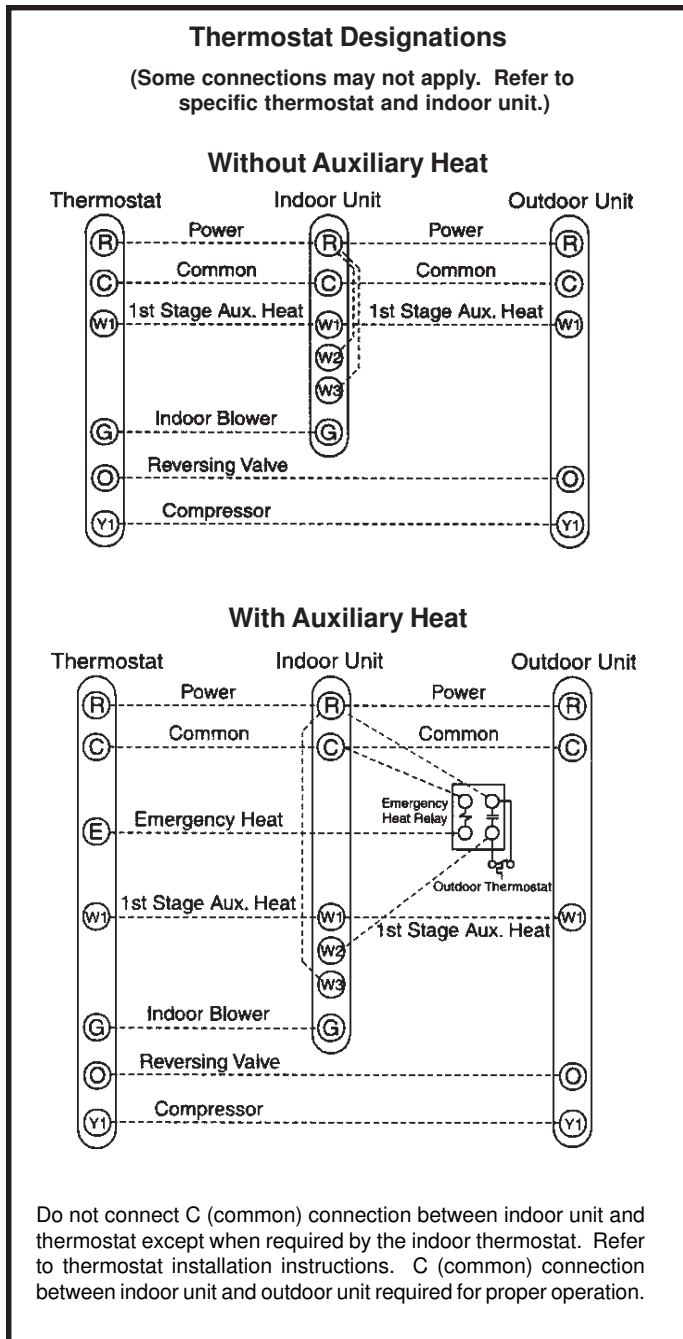

Figure 4
4. Install low voltage wiring from outdoor to indoor unit and from thermostat to indoor unit (see Figure 4).